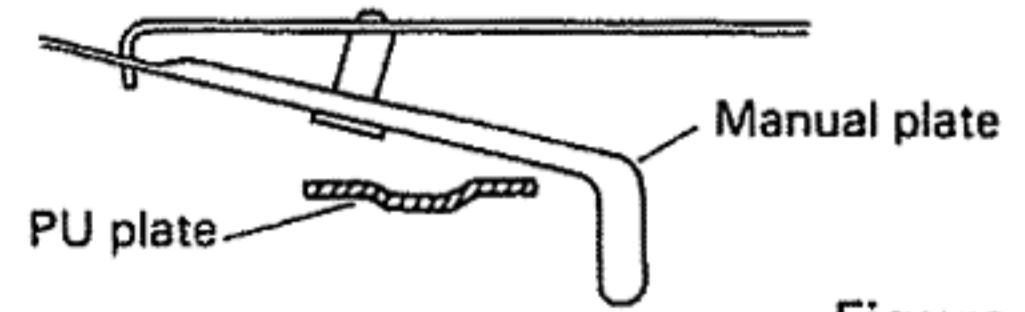

Figure 11
- While the stylus tip rides in the first modulated groove (not lead-in groove) of 12" record (30cm), the manual plate must not touch the PU plate (See Figure 11).